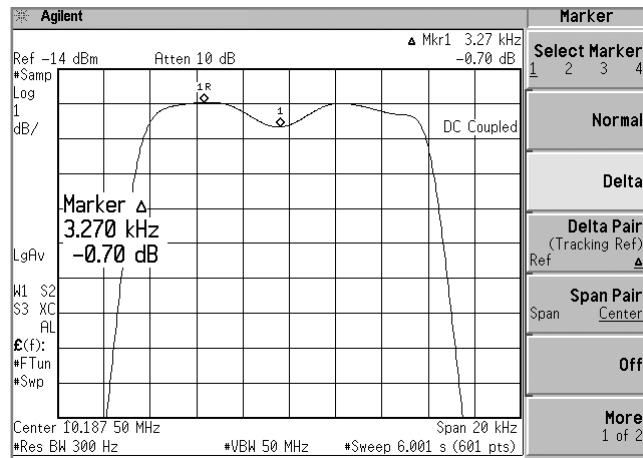

Figure 5. Characterizing flatness or ripple of the filter’s passband
3. Passband ripple	[SPAN], [20] {kHz}, [AMPLITUDE], {Ref Level}, [\pm] [14] {dBm}, {Scale Div} [1] {dB}. See Figure 5 for the measurement result.